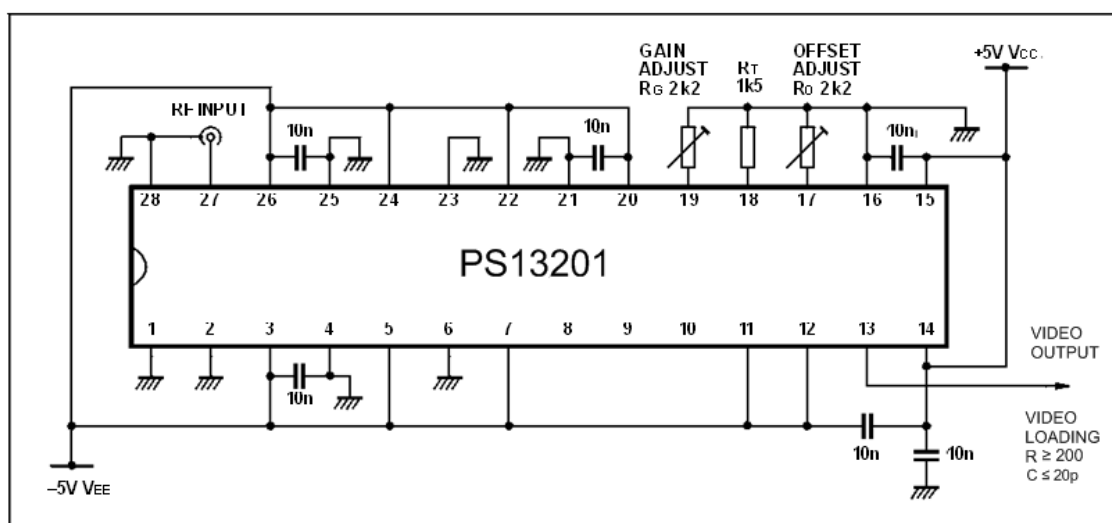
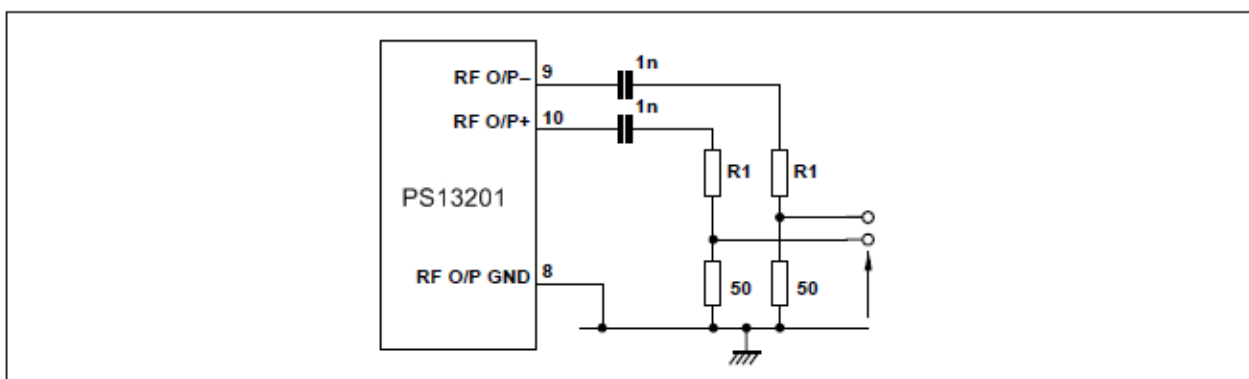

Fig.5 Application circuit successive detection logarithmic function only
Fig.9 Network for attenuating limited RF output
a) Gain and Offset trimming (ref Applications circuits in Figs 5 and 6)
If the PS13201 is to be used as a logarithmic successive detection amplifier only, with no requirement for a limited RF Output, the RF input (pins 27 and 28) can be driven EITHER differentially or single ended from a 50Ω source. If being used with a single ended input, the SIGNAL should be applied to pin 27 and the RETURN should be connected to pin 28, as shown in the Application circuit diagram in Fig 5.
If required the limited RF Output can be attenuated using an attenuation network as shown in fig. 9. Under these conditions the effective RF Output currents will be reduced, allowing the device to operate with a greater margin of stability. It may be possible to run the device without a BALUN transformer on the RF input if the total output impedance on the RF Output \gg 50 Ω , and the attenuation components are mounted as close as possible to the RF Output connections (pins 9 and 10). The RF input connection could then be configured as in Fig 5.